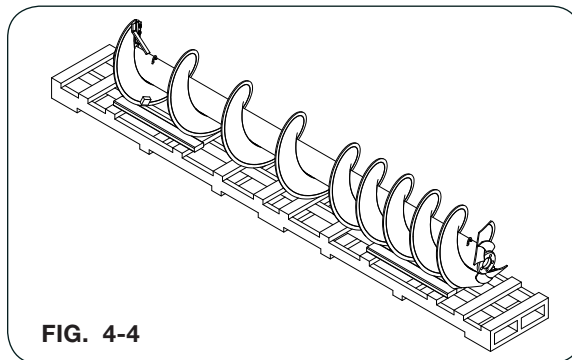

FIG. 4-4
4. The replacement auger is factory balanced. Remove entire auger from shipping crate and secure from rolling. The lower auger assembly is pictured in FIG. 4-4 for reference.